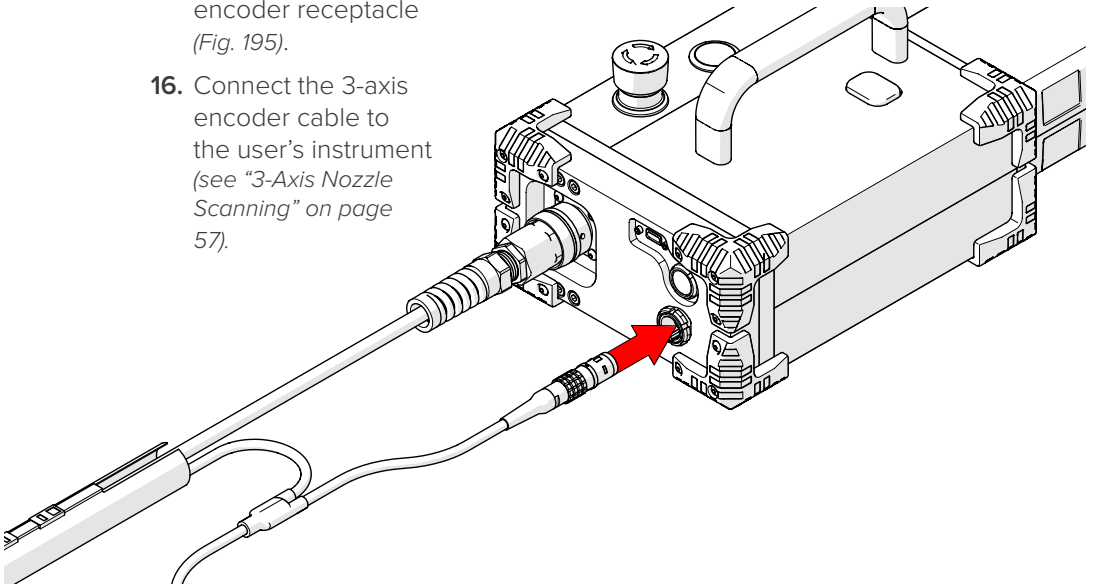

Fig. 195 - Plug 3-axis encoder cable into the power controller
15. Plug the opposite end of the 3-axis encoder cable into the power controller's encoder receptacle (Fig. 195).